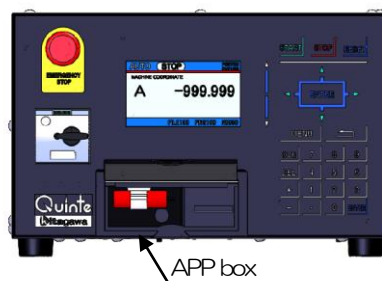

Fig F1-1 APP box
1. Open the cover of the APP box on the Quinte main body.(See Fig. F1-1)